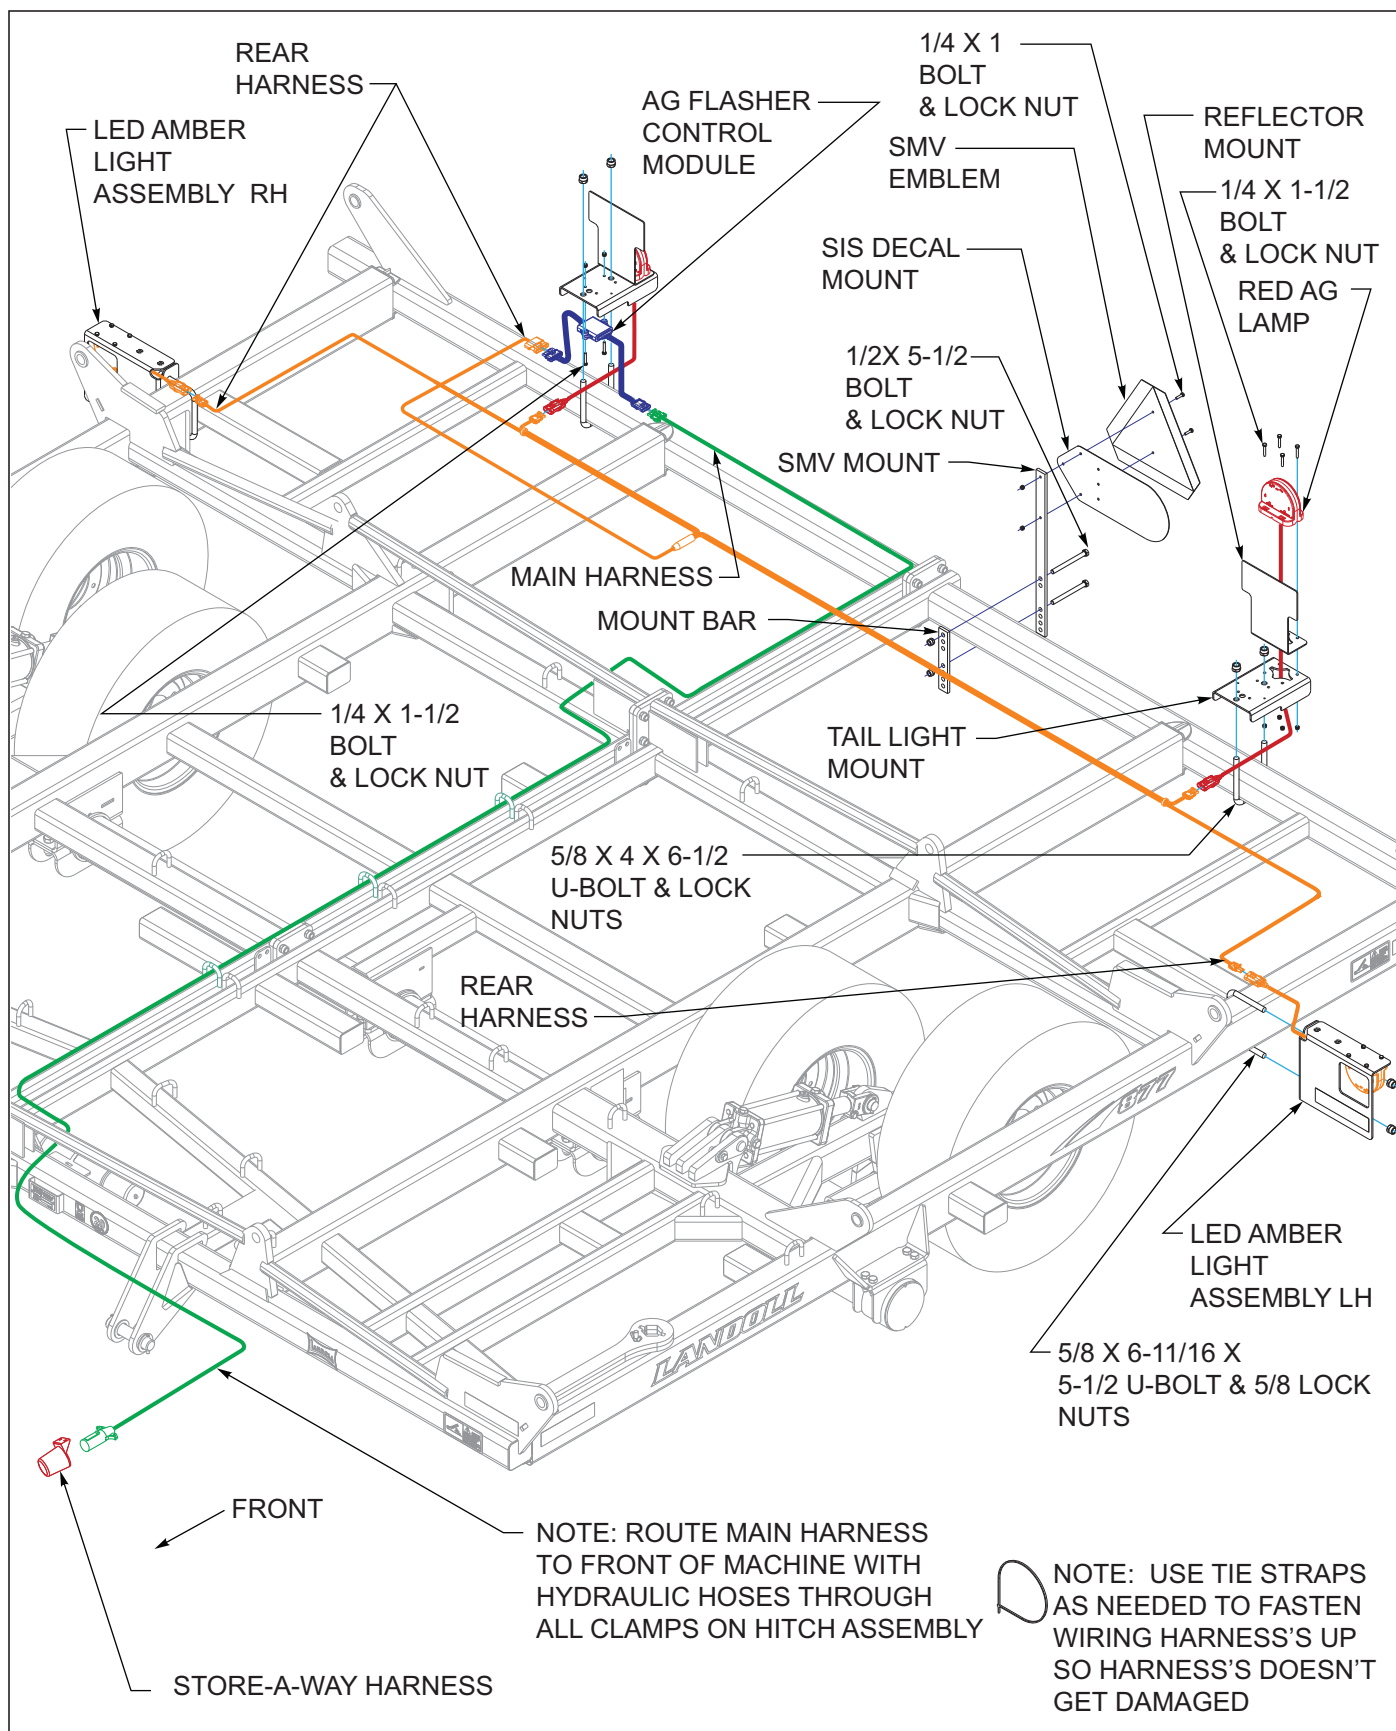

Figure 3-29: LED Light Installation
1. Attach LH and RH light bracket assemblies to center frame using 5/8 x 6-11/16 x 5-1/2 u-bolt and 5/8 lock nuts ***See Figures 3-29.***